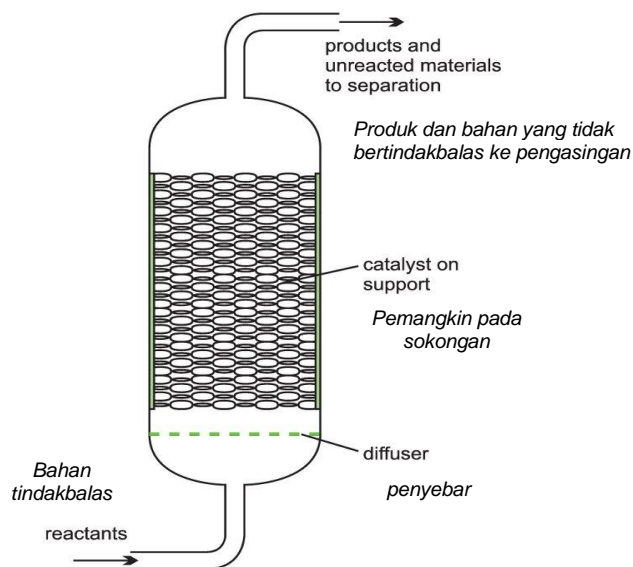

Figure 4: Catalytic reactor.
- (7). (a). Figure 4 shows the catalytic reactor that is used in industrial polymerization plants. Explain the mechanism involve in this type of reactor.